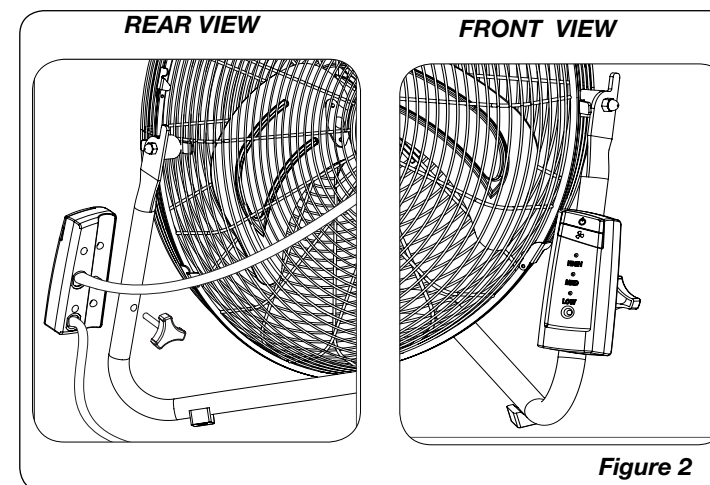

Figure 2
- Insert the holding screw from the rear of the fan through the hole in the stand leg as shown.(Figure 2)